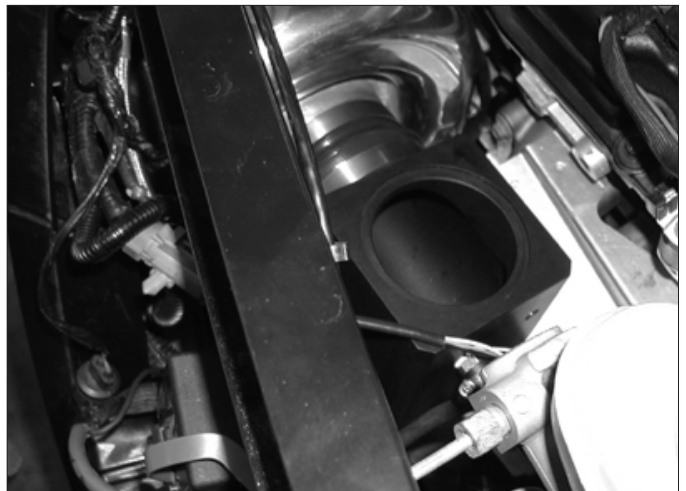

Fig. 12-3
- G. Assemble the Air Filter and attach it to the Air Box. Thread the steel rod (item #11) through the box, and thread a nut and washer on the end. Place the restrictor, plate, filter element, tube, and plate onto the rod. Finally, secure the assembly with the knob. (See Fig. 12-3.)